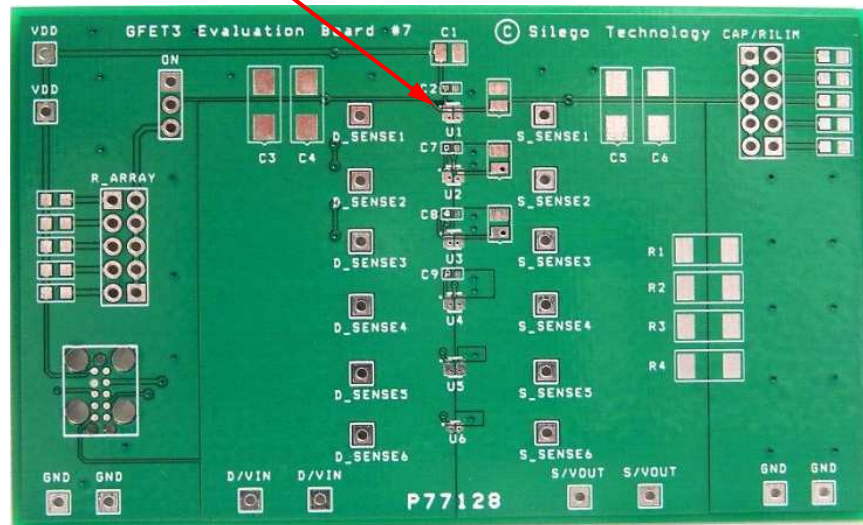

Figure 1. SLG5NT1533V Evaluation Board
2. Since the D and S pins dissipate most of the heat generated during high-load current operation, it is highly recommended to make power traces as short, direct, and wide as possible. A good practice is to make power traces with absolute minimum widths of 15 mils (0.381 mm) per Ampere. A representative layout, shown in Figure 1, illustrates proper techniques for heat to transfer as efficiently as possible out of the device;
A GFET3 Evaluation Board for SLG5NT1533V is designed according to the statements above and is illustrated on Figure 1. Please note that evaluation board has D_Sense and S_Sense pads. They cannot carry high currents and dedicated only for RDS_{ON} evaluation.